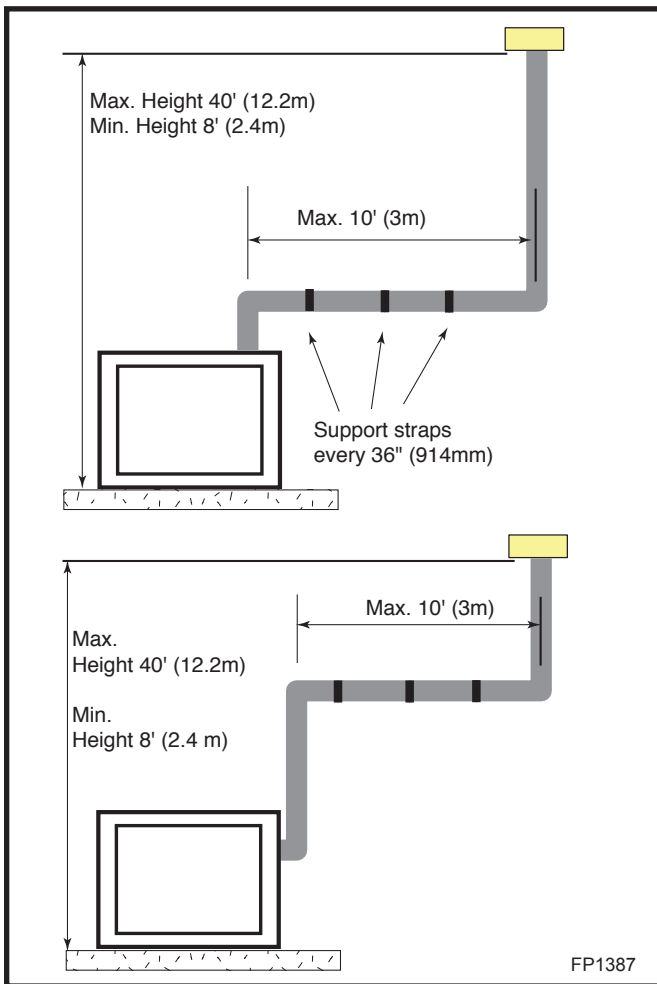

Fig. 29 Support for horizontal runs.
- Vertical installations up to 40' (12 m) in height. Up to a 10' (3 m) horizontal vent run can be installed within the vent system using a maximum of two 90° elbows. (Fig. 29 & 30)
- Up to two (2) 45° elbows may be used within the horizontal run. For each 45° elbow used on the horizontal level the maximum horizontal length must be reduced by 18" (457 mm).